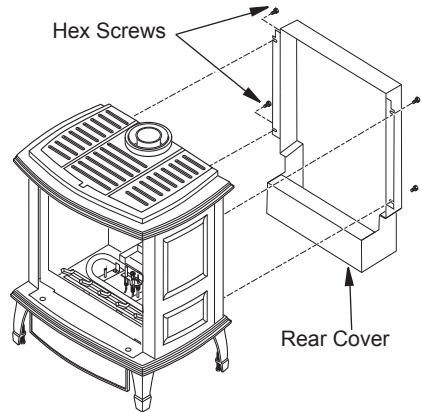

Figure 8 - Attaching Rear Cover and Bottom Cover from Stove Body
2. Using hex screws provided, attach rear cover to back of stove body. See Figure 8. **IMPORTANT:** This rear cover must be securely in place before venting pipes are installed.